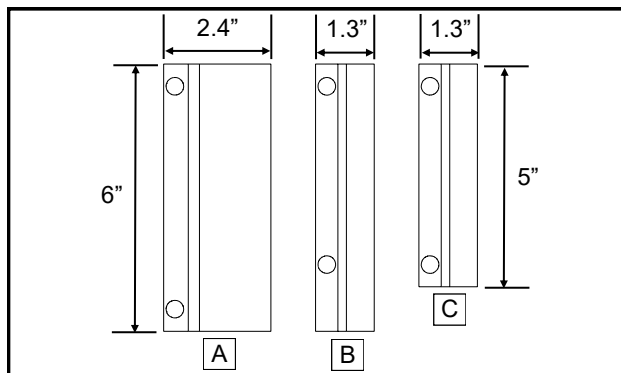
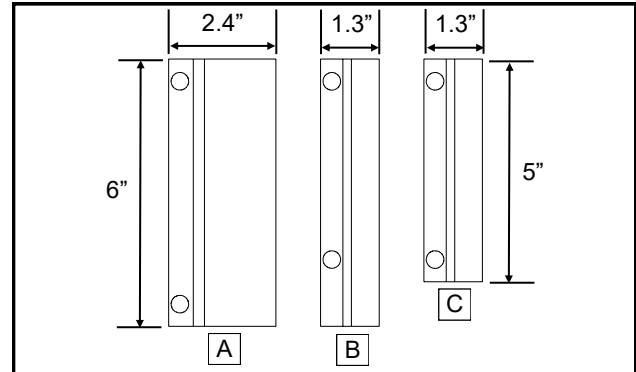
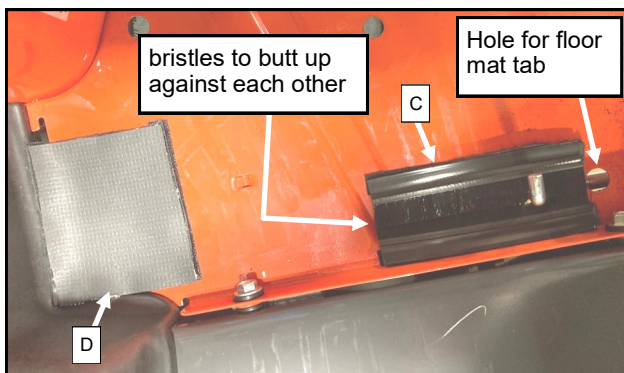

Fig. 2.1a (3 flex brush sizes included in seal kit)
Fig. 3.1a (3 flex brush sizes included in seal kit)
Fig. 3.3 (filler installation, left floorboard)
**2.1** Install (2) 6" long flex brushes (item "A" in fig 2.1a) to the underside of the left floorboard mount, using (4) plastic tree clips. See figures 2.1a and b. *Note: the (2) brushes on the floorboard mount do overlap.*
**2.3** Per figures 2.1a and 2.3, install flex brushes as shown on the right floorboard (one "A" brush and one "B" brush). Using the hole pattern in the flex brush as a guide, drill two holes per side ( $7/32$ " diameter) thru the sheet metal floorboard. *Note: It is recommended that a spare piece of metal is placed behind where you are drilling to ensure no damage is done to the vehicle.*
**2.4** Per figures 2.1a and 2.4, install flex brushes as shown around the differential lock lever found on the left fender (two "C" brushes). Using the hole pattern in the flex brush as a guide, drill two holes per side ( $7/32$ " diameter) thru the sheet metal fender.
**3.1** Install (2) 6" long flex brushes each (item "A" in figure 3.1a) to the underside of the left and right floorboard mount, using (4) plastic tree clips. See figures 2.1a and 3.1b. *Note: the (2) brushes on the floorboard mount do overlap. Note: the cab kit contains (3) "A" brushes. The fourth is located in the B2401 Conversion Kit.*
**3.3** Per figure 3.1a, locate two "C" brushes and remove the backing from the tape on the underside of the brush. Per figure 3.3, adhere the brushes to either side of the small lever on the left of the tractor floorboard, to the rear of the hole in the floorboard.